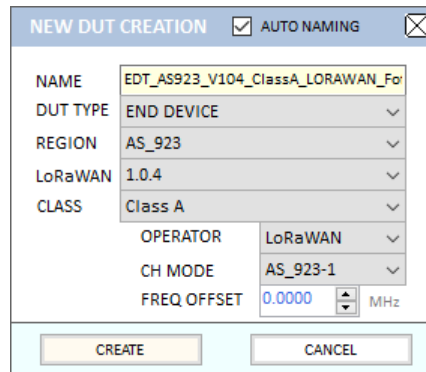

Fig 2.8 Creating a new DUT
You have to select DUT parameters such as DUT type, region, LoRaWAN version, Class, Operator(KR, CN), channel mode(AS), channel plan(CN) and Frequency offset(AS region) shown in figure 2.8 before you create a DUT file. Once created, you cannot modify the name of the DUT, and the parameters mentioned above. If you want to modify any of them, you must create new one. The AUTO NAMING will help you quickly name it.